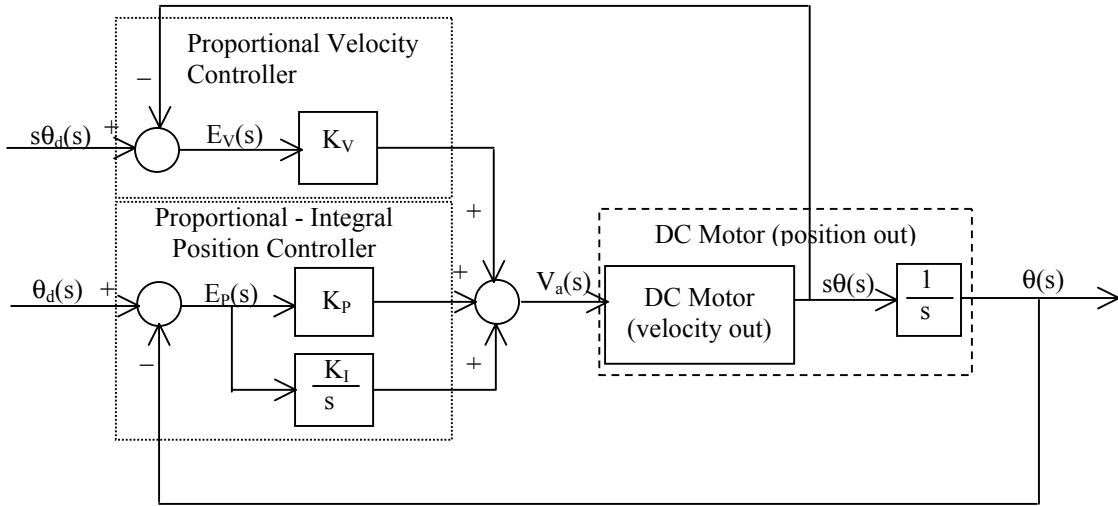
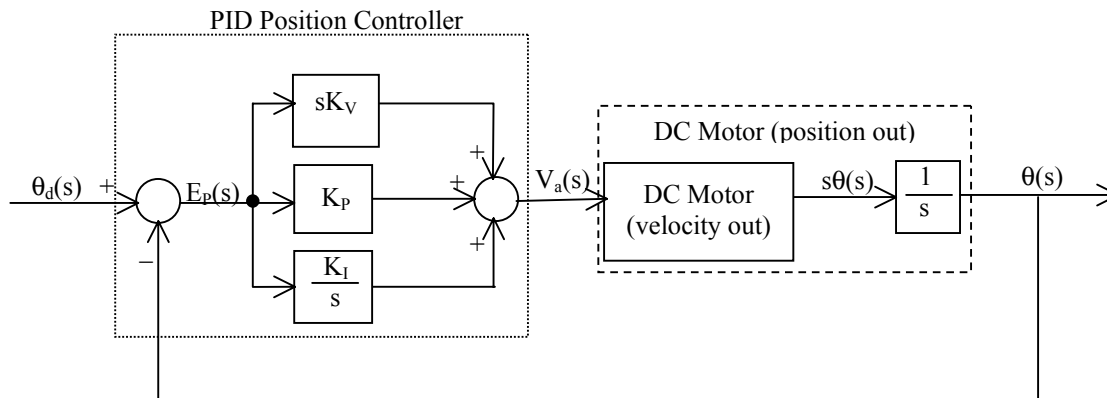

Figure 1: Proportional-Integral Position plus Proportional Velocity Control of a DC Motor
Figure 2: Proportional-Integral-Derivative (PID) Position Control of a DC Motor
Many applications require a motor to accurately track a position profile that varies smoothly over time rather than a sharp transition from one fixed value to another. This type of control objective is referred to as trajectory tracking and can serve two purposes. The first application of trajectory tracking is for tasks such as robotic welding, robotic spray painting, or radar target tracking where a motor driven system needs to be precisely positioned for each instant of time. The second usage is for transitioning a motor driven system such as a large antenna from one fixed position to another without the sudden motions and excessive control action often required for following a step transition. This lab investigates the use of proportional and integral (PI) position control along with proportional (P) velocity control for DC motor trajectory tracking as shown in figure 1. Making use of both position and velocity information in the control system gives the controller more information about the task and should improve tracking accuracy.
2. The control system depicted in figure 1 has two inputs and one output making system analysis difficult; therefore, for ease of investigation, the control system can be redrawn in true PID form as shown in figure 2. Explain what was done in this reduction.
3. For the PID control system of figure 2, find the forward path transfer function $\theta(s)/E_p(s)$ in general.
4. For the PID control system of figure 2, find the closed-loop transfer function $\theta(s)/\theta_d(s)$ both in general and with motor parameters substituted.
2. Simulate your motor tracking system in Simulink as shown in figure 1 using the trajectory generator created in the prelab, motor model developed in previous labs, and gains determined above and in the prelab. The simulation serves to confirm that the chosen gains will achieve reasonable performance.
6. Add the PI position and P velocity control algorithms shown in figure 1 to implement the control approach on the DC motor. Implement the integral as simple Euler integration shown in equation 2 noting that *shift registers* will need to be used to initialize and compute the sum. See the online help for more information on *shift registers* and use gains K_V , K_P , and K_I determined above. After running your VI and successfully controlling the motor, make any necessary adjustments to the gains to further enhance performance and print the final VI and motor position and velocity responses. Comment on any differences between simulated and actual responses, problems, or unforeseen difficulties.
- b) Why was the controller utilized in this lab (see figure 1) described as PI position with P velocity rather than PID (see figure 2)? Is there a difference?